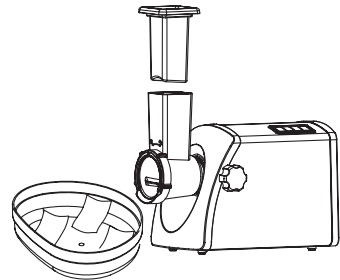

Figure 17.
6. Feed vegetables into the shredding head and push it down using the shredding food pusher (fig. 17).